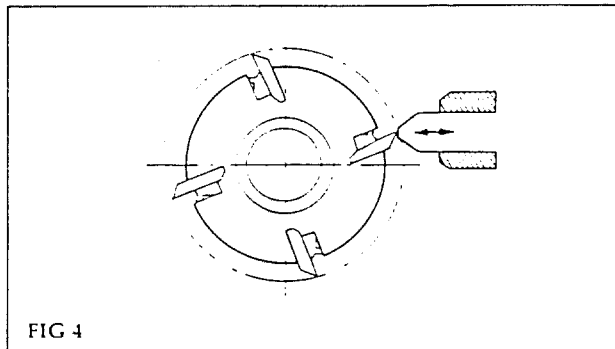

FIG 4
- Fig 4/1 Near side head
- Fig 4/2 Hand controls — near side head
- Fig 4 Spindle unit bearing assembly
- Fig 4 Top head — including power rise and fall
To ensure that all the knives in a cutterblock run in an absolutely true cutting circle, the technique of jointing is used, in which the jointing 'stone' trues all the knives while rotating at cutting speed in the planing and moulding machine (see Fig 4).